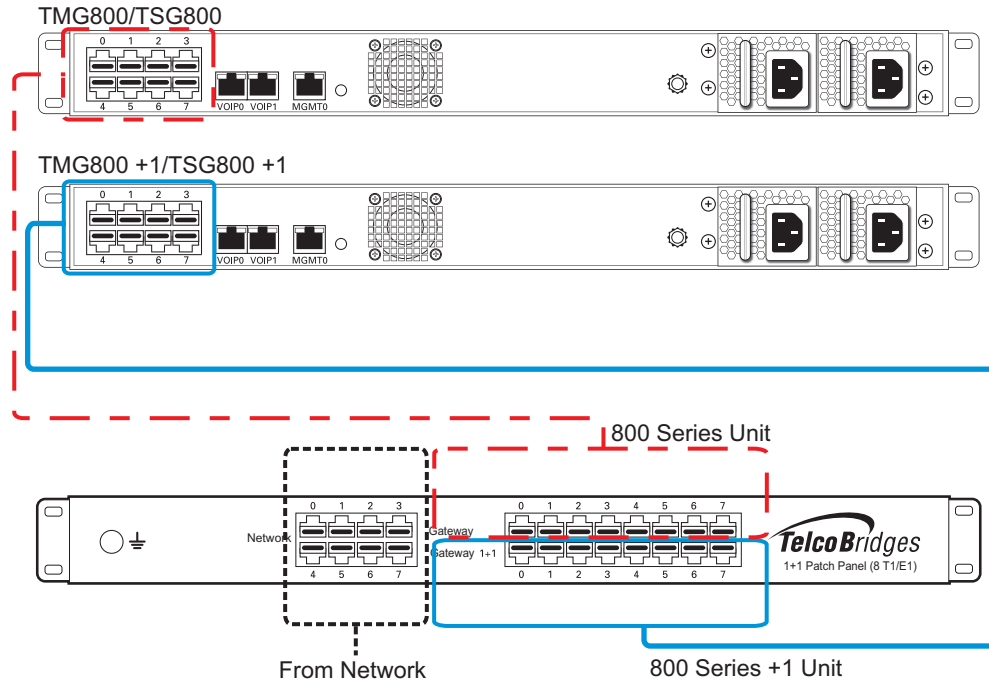

Figure 2.10 TMG800/TSG800 and TMG800 +1/ TSG800 +1 connecting to the 1+1 patch panel (8/T1/E1)
1. Connect T1/E1 lines 0-7 of the Network section of the patch panel to the remote equipment. See figure 2.10 on page 25.